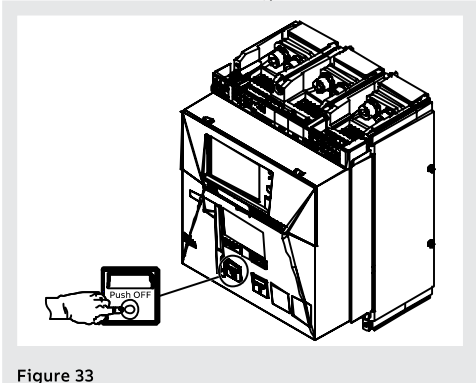

Figure 33
6. Opening - Press the opening pushbutton "O - Push OFF" as indicated in Figure 33.